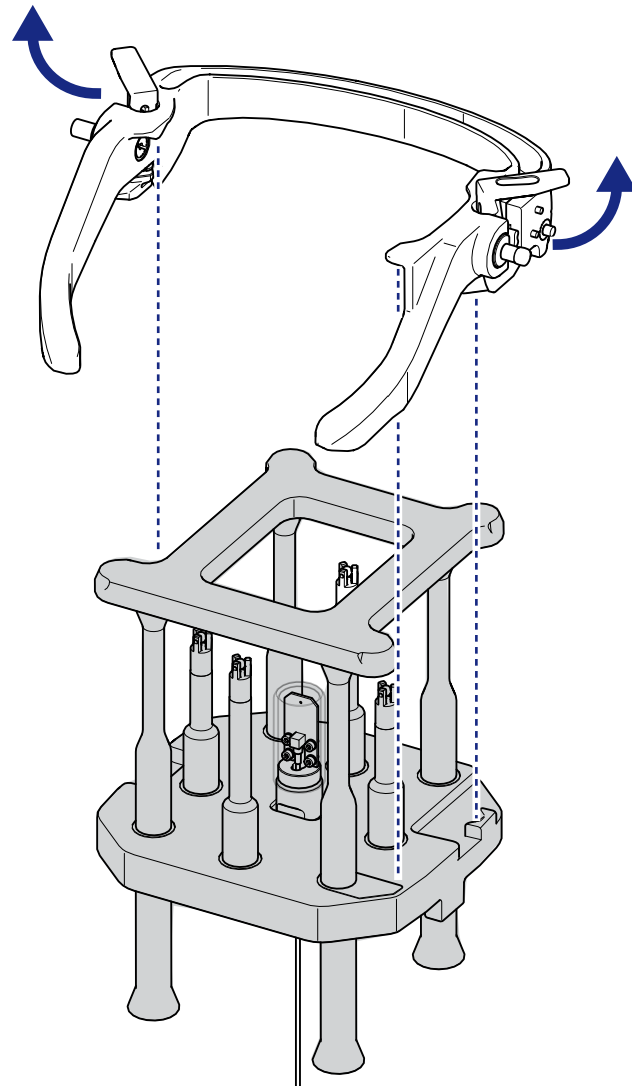

Figure 6.2 Attaching the Vantage frame adapter to the QA tool Vantage
- 2 Release the left and right levers on the Vantage frame adapter, see Figure 6.2.